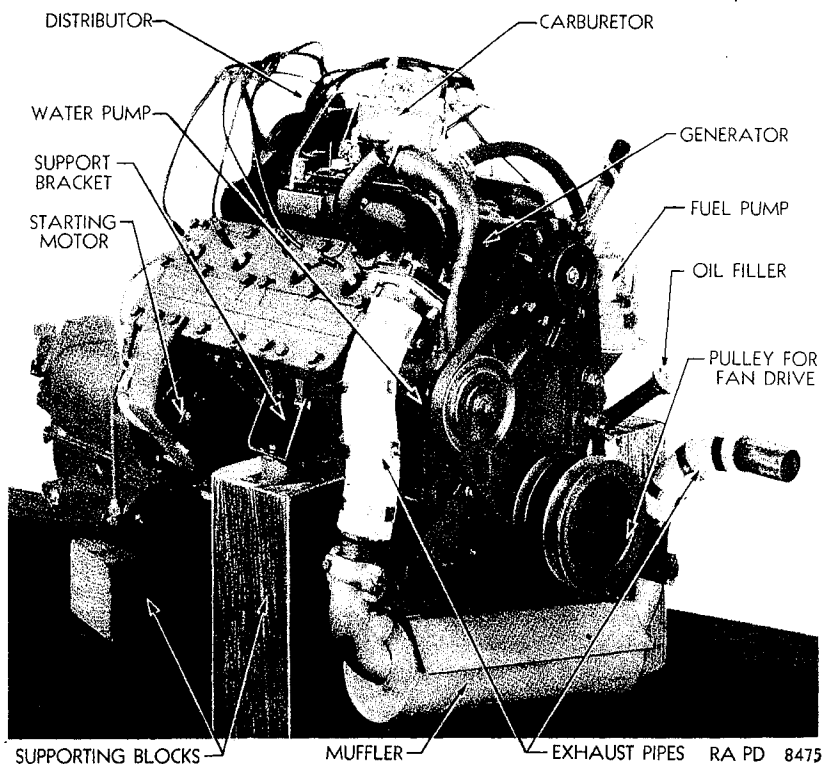

Figure 24—Right Front View of Engine
## 62. DESIGN AND CONSTRUCTION. (Fig. 24).
f. The exhaust pipes and mufflers are carried in the rear of the hull and mounted on the engines as shown in Fig. 24.